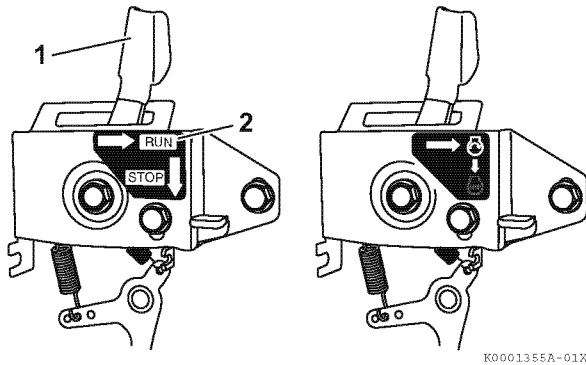

Figure 12
- If your engine speed control is similar to **Figure 12** slide the engine speed control lever (1, **Figure 12**) to the RUN position or (2, **Figure 12**).